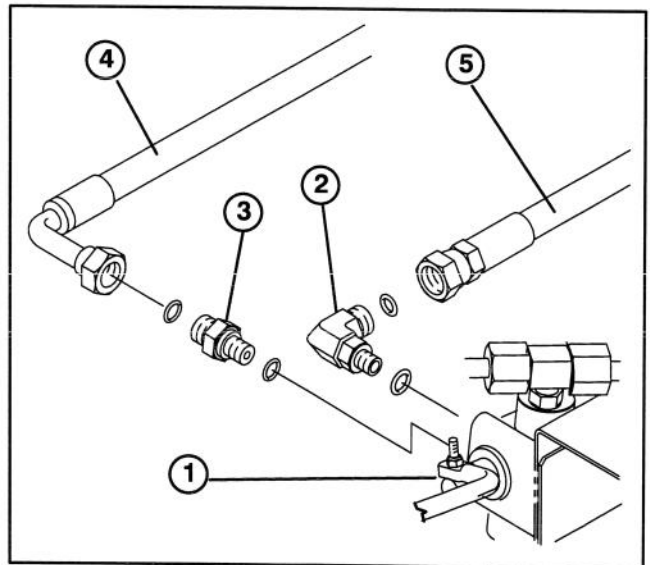

Figure 22
37. Loosely thread a 90° fitting into rear port on side of auxiliary valve (Fig. 22).
38. Loosely thread a straight fitting into front port on side of auxiliary valve (Fig. 22).
39. Mount hydraulic hose, with straight end to rear 90° fitting on side of auxiliary valve (Fig. 22). Route hose rearward, along left side of frame and in front of PTO (if so equipped) to straight fitting in lower coupler. Direct end of hose with 45° fitting towards right side of frame away from transaxle. Route hose away from any hot or moving parts. Secure hose fittings.
40. Mount hydraulic hose, with 90° end to front straight fitting in auxiliary valve (Fig. 22). Route hose rearward, along left side of frame and in front of PTO (if so equipped) to straight fitting in upper coupler. Direct end of hose with 45° fitting towards right side of frame away from transaxle. Route hose away from any hot or moving parts. Secure hose fittings.